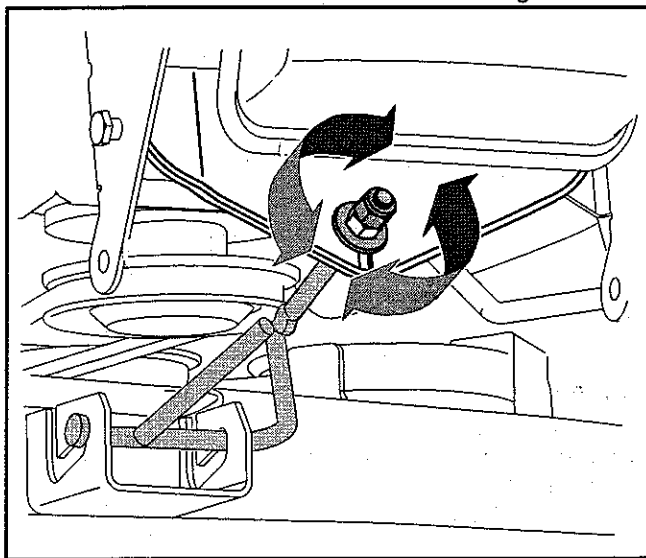

Figure 14
5. From the front of the tractor, loosen the outermost hex lock nut on the end of the deck hanger rod. See Figure 14.
6. Tighten the inner hex nut against the front hanger bracket to raise the front of the deck; loosen the hex nut to lower the front of the deck. See Figure 14.